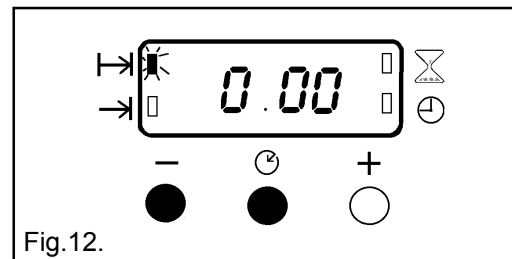

Fig.12.
- i) To cancel an automatic programme press the Selector Control button until the 'Cook Time' indicator (H→) neon flashes. Press the decrease control (-) until the display reads 0.00 as Fig. 12.